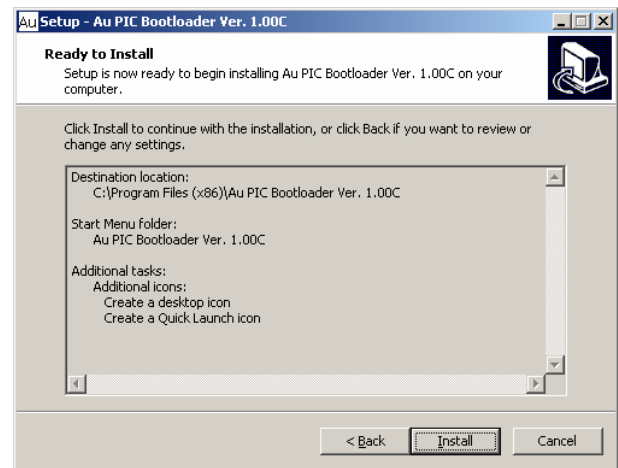

Figure D-7
- “Ready to Install” window shows up. Click “Install” (Figure D-7).